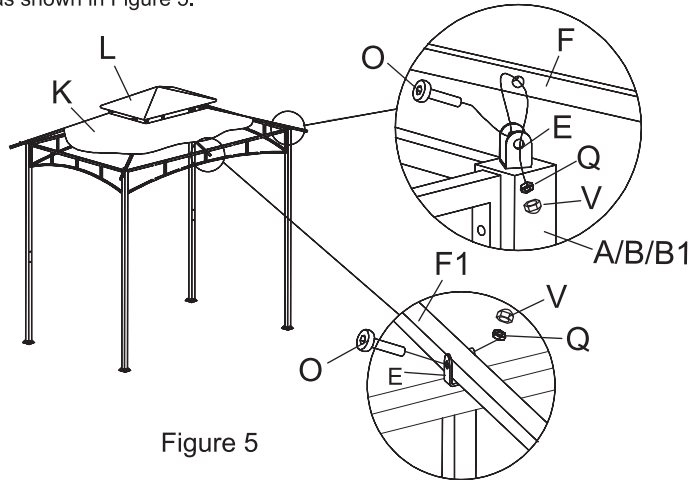

Figure 5
Then Connect the Top Tube (F) of the Canopy Frame assembled in Step 3 with the U-shaped Connector (E) to the Pillars (A/B/B1) in four corners with the Bolt (O), Nut (Q) and Nut Cap (V) as shown in Figure 5.